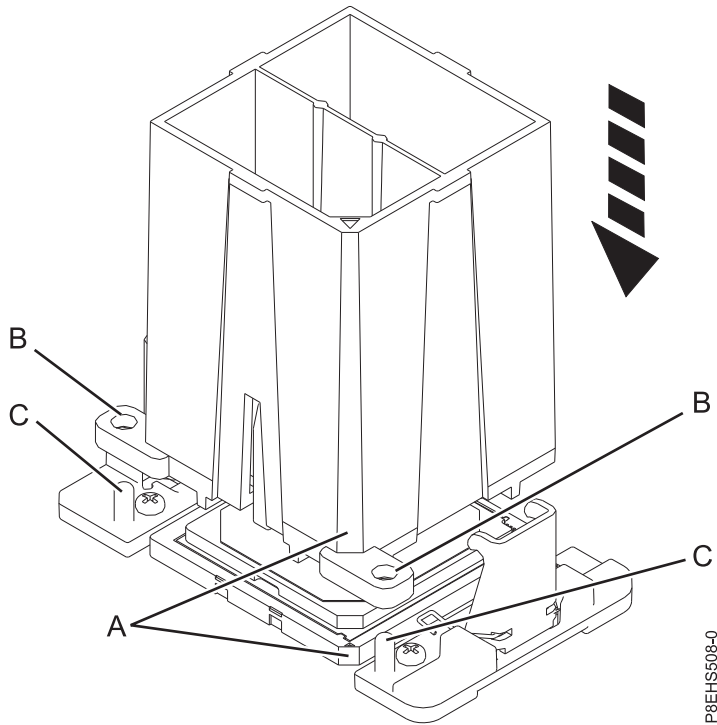

Figure 158. Lowering the removal tool onto the system processor module
- a. Using the supplied removal tool (part number 01AF101), align the beveled corner (A) of the tool over the beveled corner of the system processor module as shown in Figure 158 on page 139.
- b. Lower the tool over the system processor module by ensuring the two guide pins (C) are inserted into the alignment holes (B) on each side of the tool.